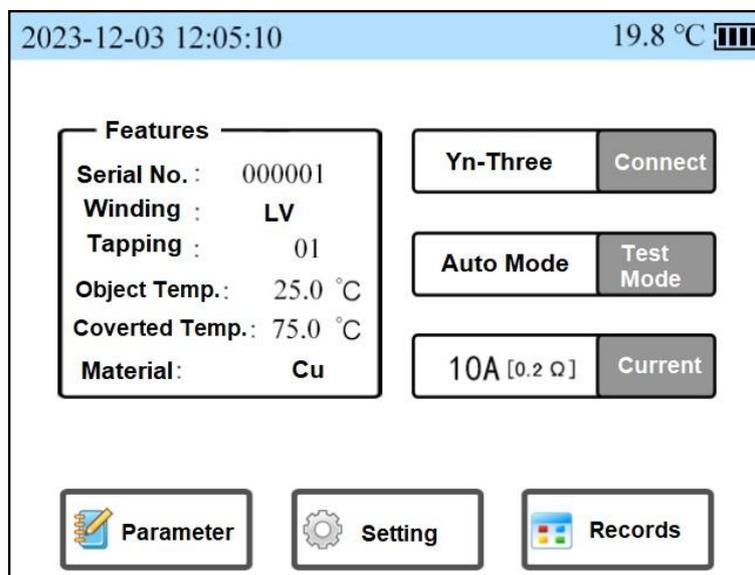
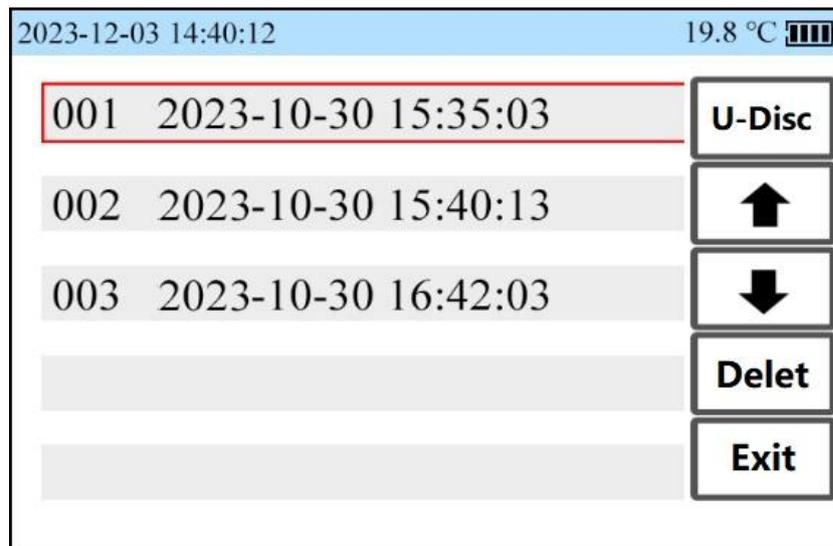
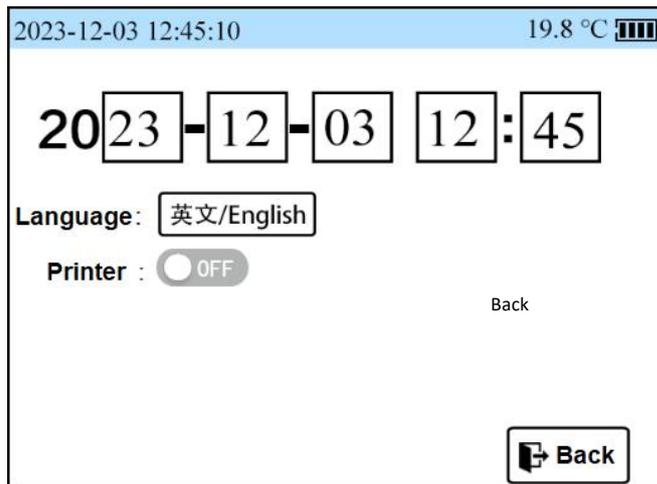

fig2
Fig 7
Fig 8
First, press ① and hold for more than two seconds to turn on the power, LCD screen lit the display will show the company LOGO interface, stay for about 1 second, the display shows the Figure 2 interface.
In the main interface (Figure 2) touch the "Record" button to view the records as shown in Figure 7, 100 sets of data storage can be viewed. You can turn the page by click " up" or " down" button, with five record directories shown on one page. The Touch Data Catalog display box selects the Data Catalog, and then touches the Data Catalog display box to view the datas of this catalog. Touch the Delete button to delete records one by one. The number of the record group represents only the sequential number, so view the record data by the time it was saved.
In the main interface (Figure 2) touch the "System Settings" button to enter the system settings interface as shown in Figure 8